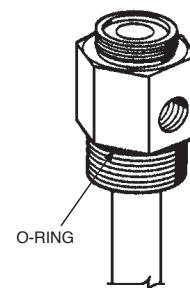

FIGURE 7-1
- b. Clean and coat the o-ring with a good grade of extreme temperature grease and reinstall into adaptor groove. See Figure 7-1.